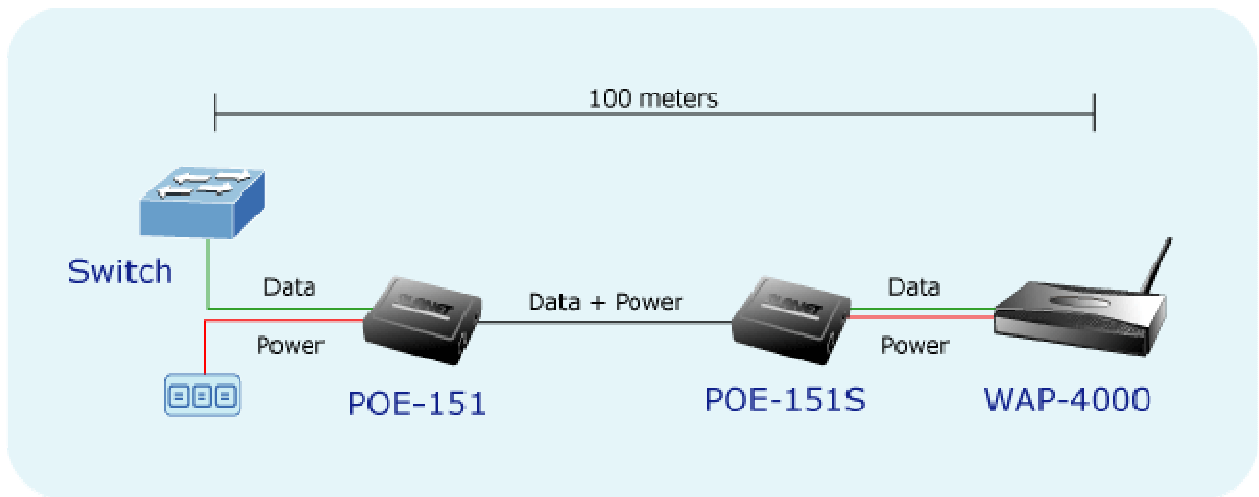

Figure 3: Connection architecture over POE-151/151S
4. Power on the remote device and the LED indicator on POE-151S will remain on, the screen in Figure 3 appears.